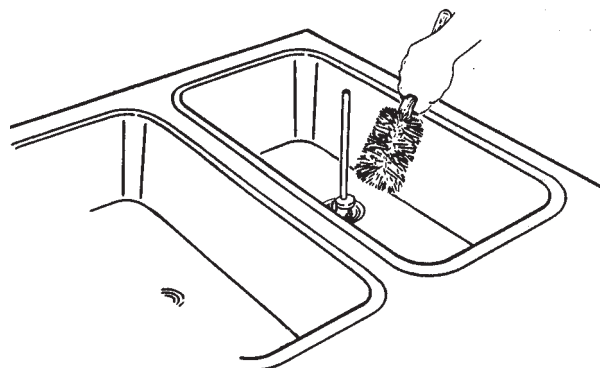

Figure 13. Sanitizing Hopper
- D. Clean sides of hopper, mix inlet regulator and underside of hopper cover using a sanitized soft bristle brush dipped in the sanitizing solution (Fig. 13).